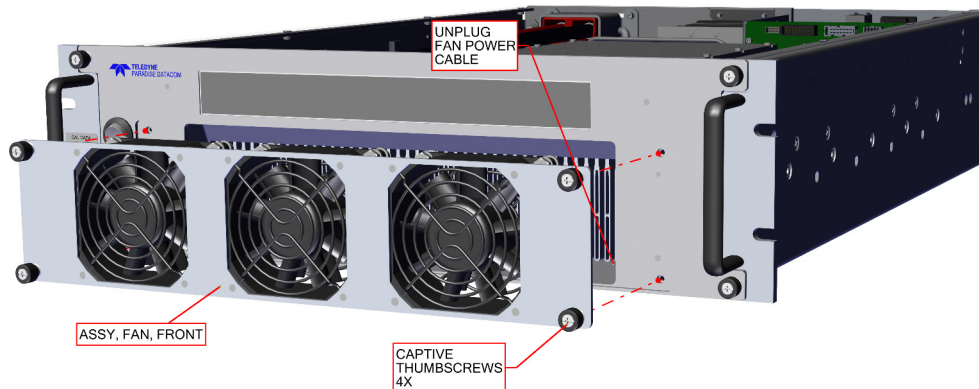

Figure 2: 3RU SSPA, Removable Front Fan Assembly
Four (4) captive thumb screws secure the fan tray to the front of the chassis. Loosen the thumb screws with a Philips screwdriver by rotating them counter-clockwise. Gently slide the fan tray assembly out of the enclosure until there is enough clearance to reach the power plug. Unplug the power connector. See Figure 2.